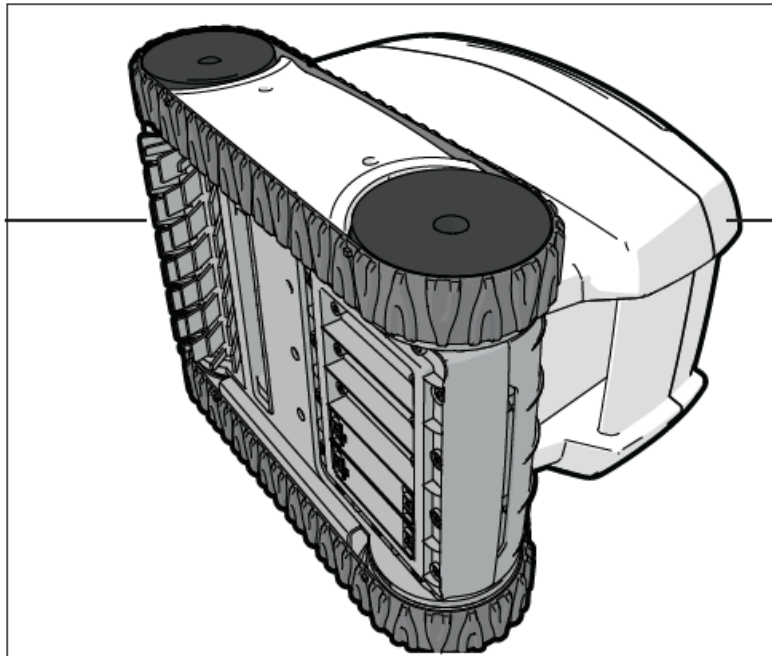

Figure 20. Stand Cleaner on its Side
1. Stand the cleaner on its side. Figure 20.